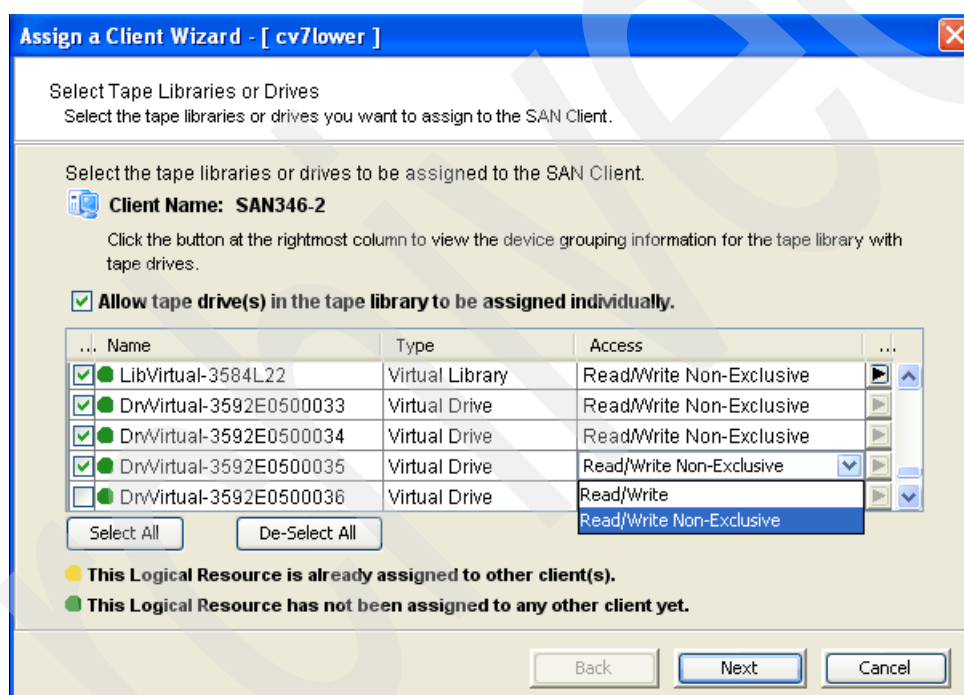

Figure 6-61 Assigning a client to the library and drives
2. In the Select Tape Libraries or Drives panel (Figure 6-61), you can select different access modes to assign libraries and drives. The access types are:
In our limited configuration for this publication, our server SAN346-2 only has one 4 Gb Fibre Channel HBA and the Select a Fibre Channel Target panel does not display and load balancing does not apply. By selecting the option to assign libraries and drives individually (see Figure 6-61), we can illustrate how to assign tape drives over different Fibre Channel targets by selecting the library and the first three drives.